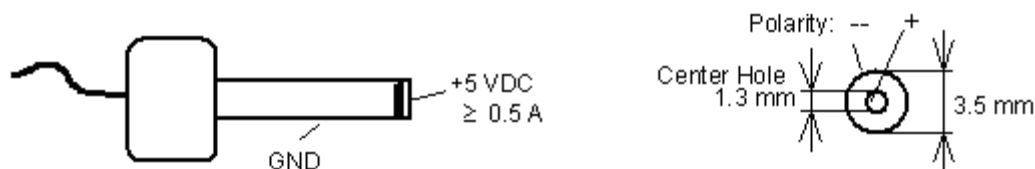

Figure 2: Power Connector
| Figure 2: Power Connector .....   | 12 |
- Connect the included 5V power adapter to the power socket X304 on the phyCORE Carrier Board (refer to Figure 2 for the correct polarity).